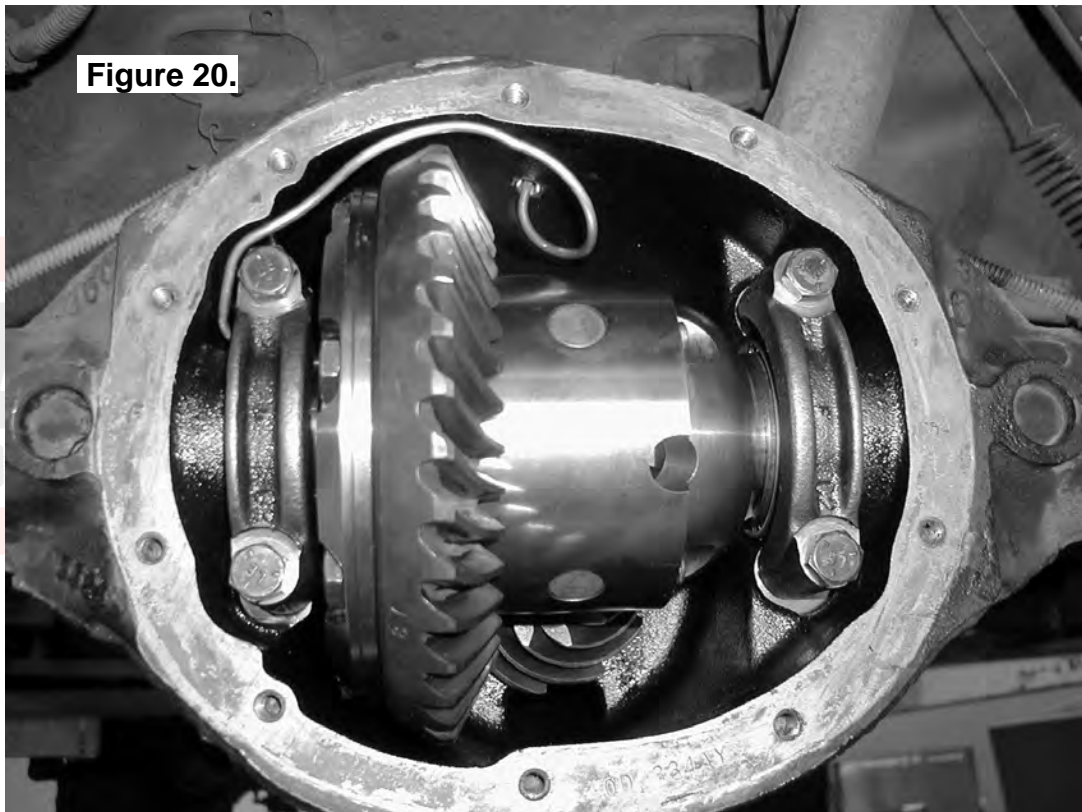

Figure 20.
- Without using sharp, jagged tools such as pliers (usually your hands are the best tool for this job), gently bend the seal housing tube so that it runs along the inside of the differential housing as shown in Figure 20.